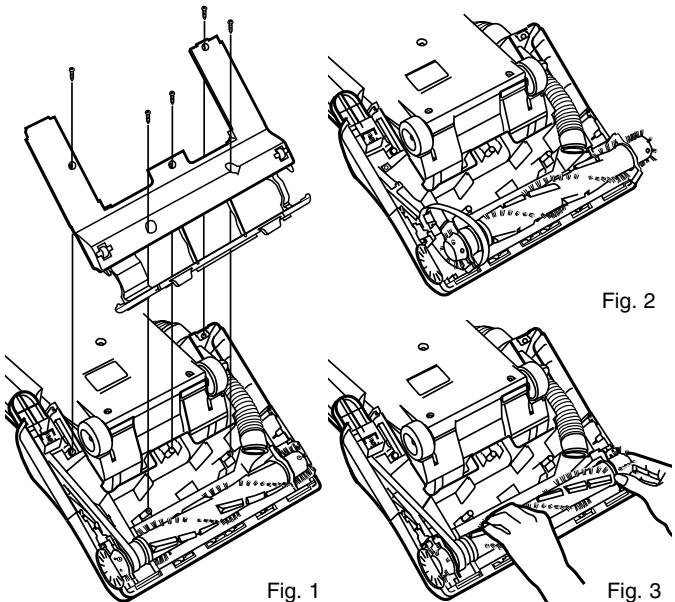

Fig. 2
2. Release the belt from the motor shaft and lift the beater bar assembly to remove the belt. (Fig. 2)